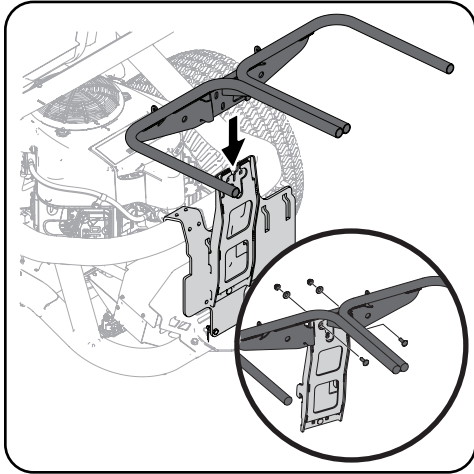

Figure 4-7
1. Install and secure the hanger assembly onto the upright support bracket using two carriage bolts (710-0276) two cup washers (736-0242) and two flange lock nuts (712-04063) from hardware pack 689-01419. See Figure 4-7.